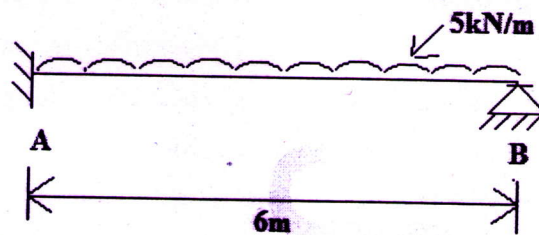

Fig.4
- 14 Analyse the beam shown in Fig.4 using flexibility method. (14)